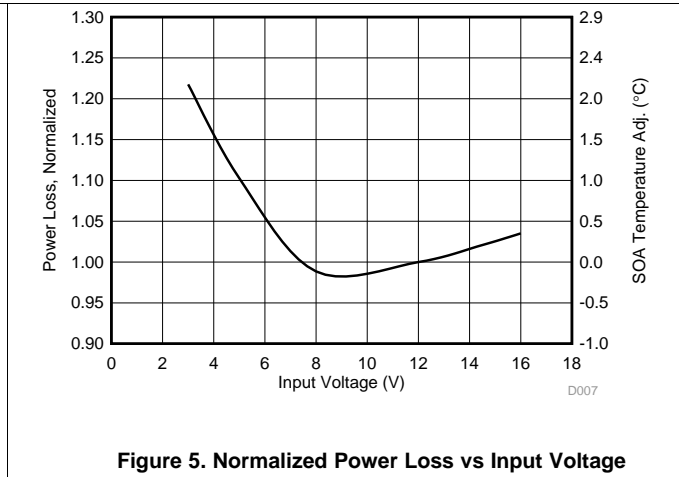

Figure 5. Normalized Power Loss vs Input Voltage
- Normalized power loss for input voltage ≈ 1.1 (Figure 5)
- SOA adjustment for input voltage ≈ 1.0°C (Figure 5)